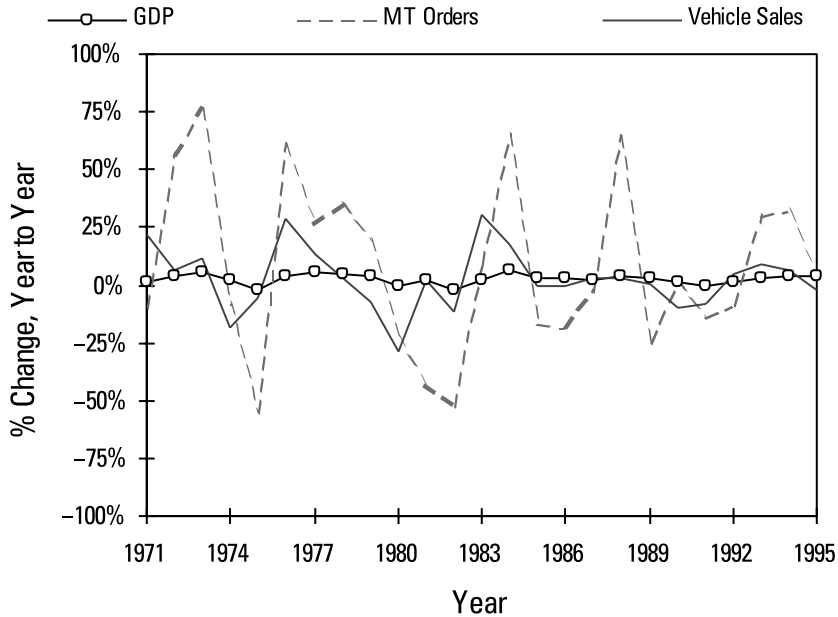

FIGURE 14-4:
Figure 14-4 shows actual data for the machine tool supply chain. The GDP in this graph looks relatively stable compared to the variability experienced in the demand for automobiles and the supply chain for automobiles. Figure 14-4 shows that the variability in orders for machine tools (MT) is even greater than for automobiles. This makes practical sense because automotive manufacturers purchase machine tools to assemble automobiles. When demand for automobiles increases, the firm may desire to increase capacity and go out and place orders for more machines to assemble the autos. Just like the end of a bullwhip can exceed the speed of the sound barrier, resulting in a sharp “crack” while the handle of the